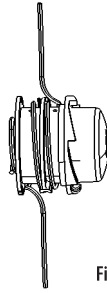

Fig. 21
1. Press the "PUSH" button on trimmer head to disassemble the release tabs inward to unlock them from the upper cover, and then pull out the spool retainer, double the line and hang it and rotate it on the spool retainer; (Fig. 21&22).